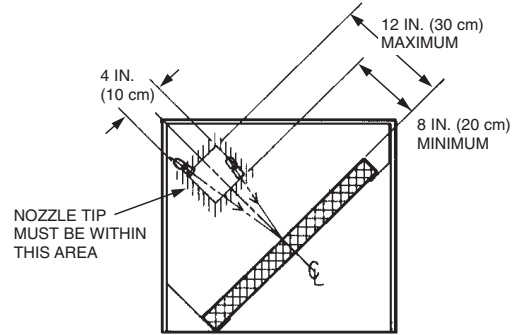

FIGURE 8
- ▶ **Option 2:** The 1W nozzle must be placed perpendicular, 8-12 in. (20-30 cm) from the face of the filter and angled to the center of the filter. The nozzle tip must be within 2 in. (5 cm) from the perpendicular center line of the filter. See Figure 8.